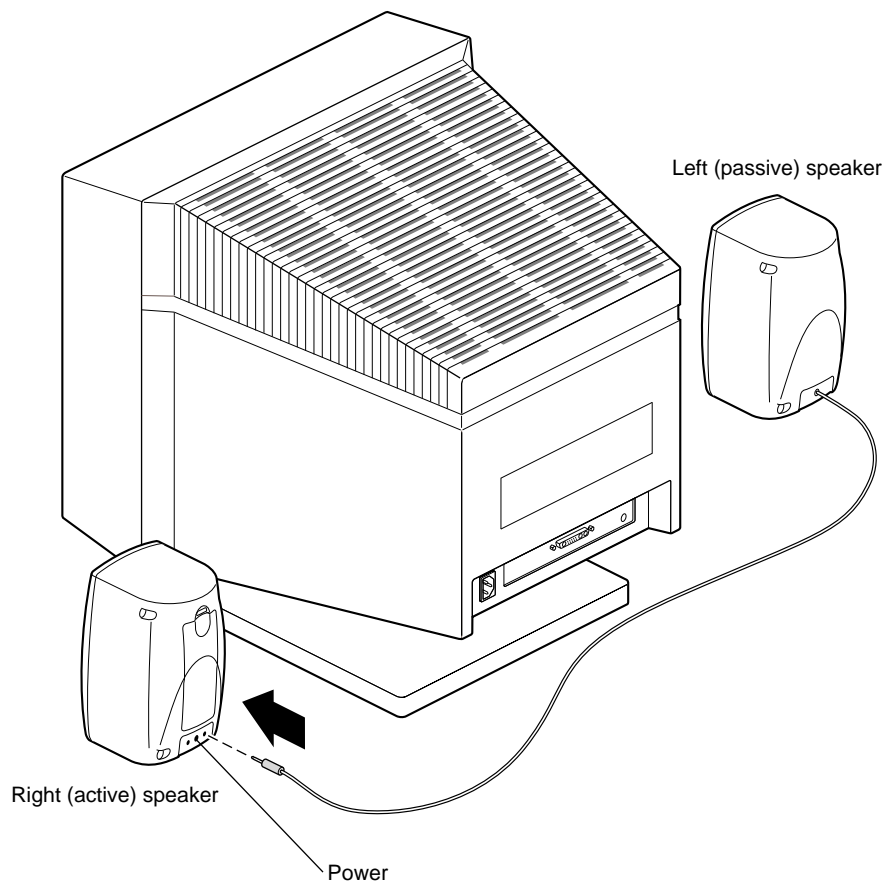

Figure 1-7 Attaching the Speaker-to-Speaker Cable
3. Place the speakers on either side of the monitor as shown in Figure 1-7.